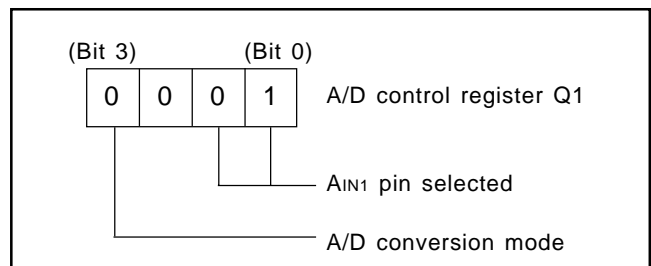

Fig. 30 Setting registers
- ① Select the AIN1 pin function and A/D conversion mode with the register Q1 (refer to Figure 30).
- ② Execute the ADST instruction and start A/D conversion.
- ③ Examine the state of ADF flag with the SNZAD instruction to determine the end of A/D conversion.
- ④ Transfer the low-order 2 bits of converted data to the high-order 2 bits of register A (TALA instruction).
- ⑤ Transfer the contents of register A to M (Z, X, Y) = (0, 0, 2).
- ⑥ Transfer the high-order 8 bits of converted data to registers A and B (TABAD instruction).
- ⑦ Transfer the contents of register A to M (Z, X, Y) = (0, 0, 1).
- ⑧ Transfer the contents of register B to register A, and then, store into M(Z, X, Y) = (0, 0, 0).